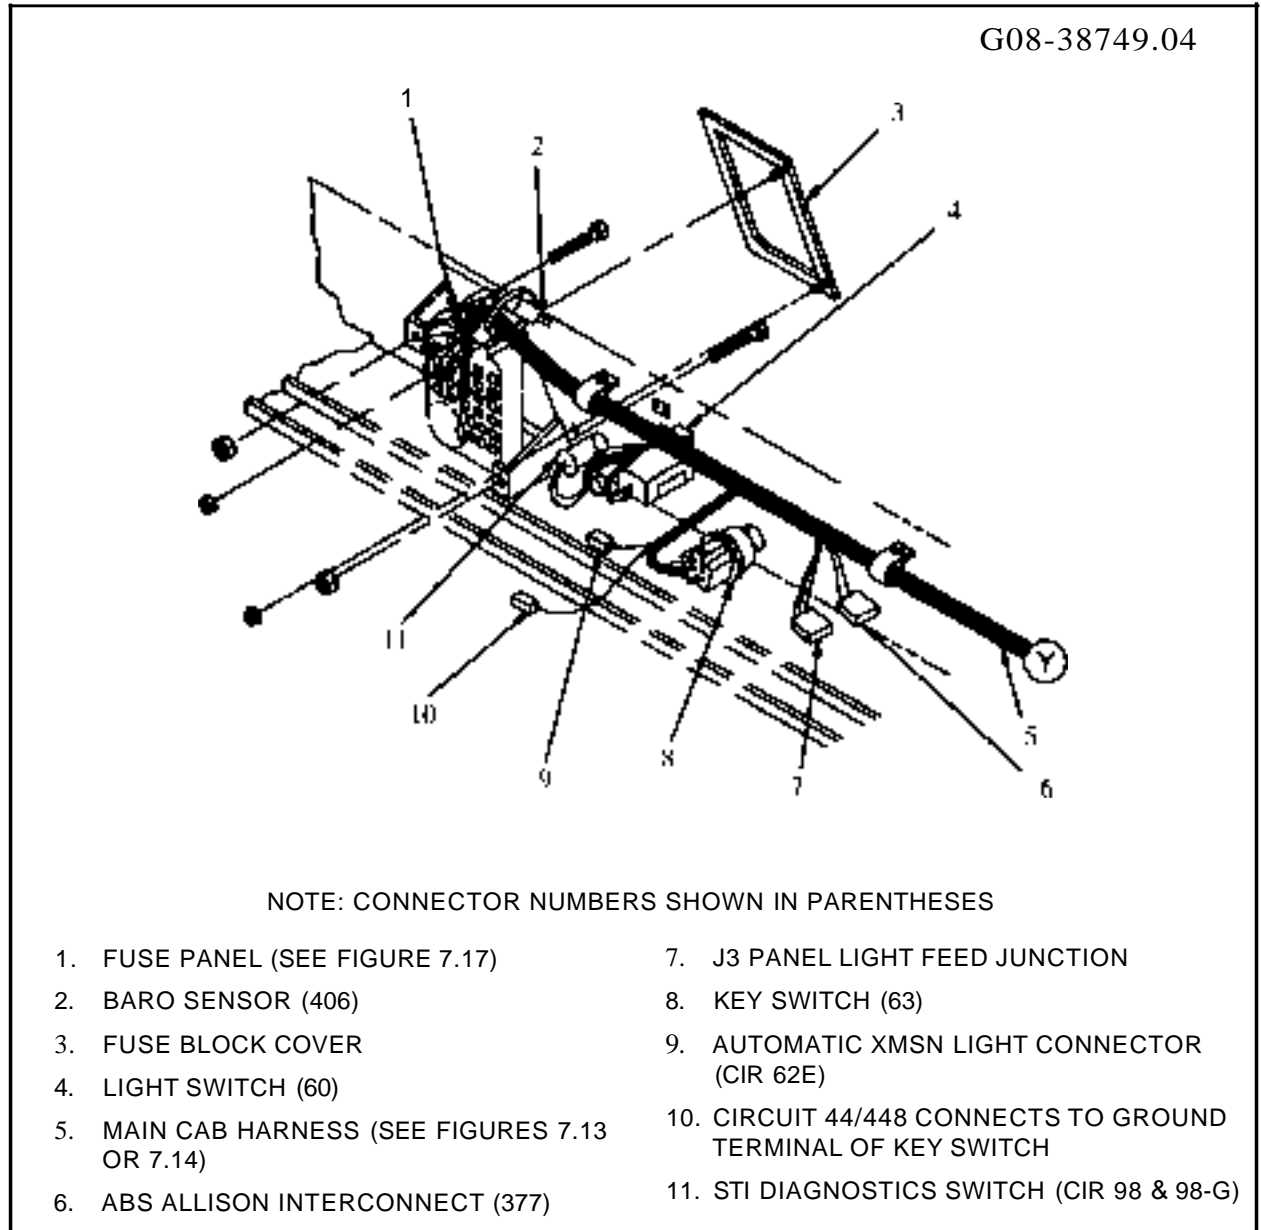

Figure 7.15 - FBe RH Cab Wiring
| 5. SEE FIGURE 7.15 | 11. STOP LIGHT SWITCH CONNECTOR (46) |